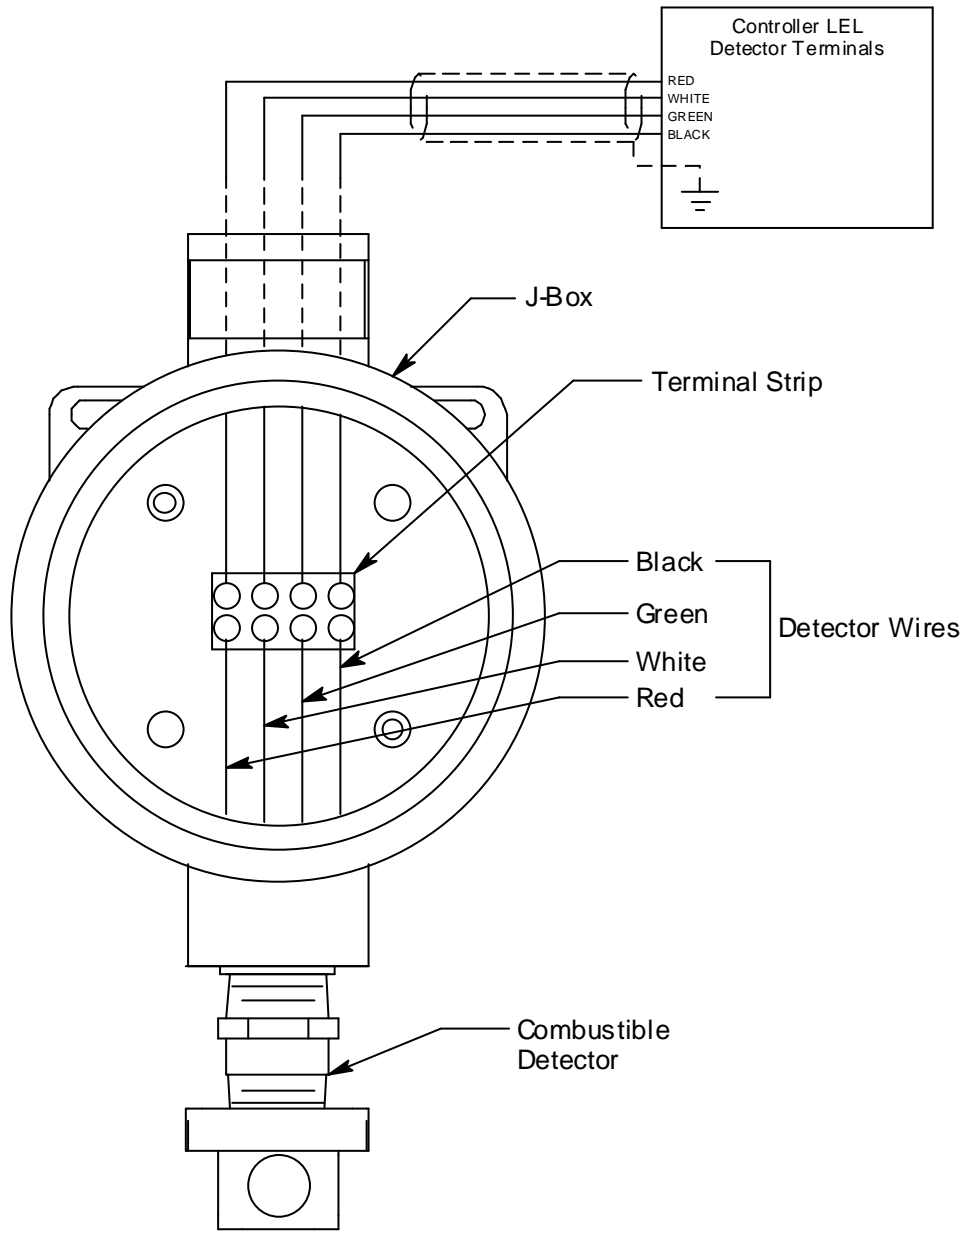

Figure 3: Wiring the Combustible Gas Detector to a Controller
7. Connect the detector leads to the terminal block the same way the old detector was wired (see Figure 3). See the controller operator's manual and the controller's detector head specification sheet for the 61-1000RKSS-05 detector to verify the connections to the controller are correct.